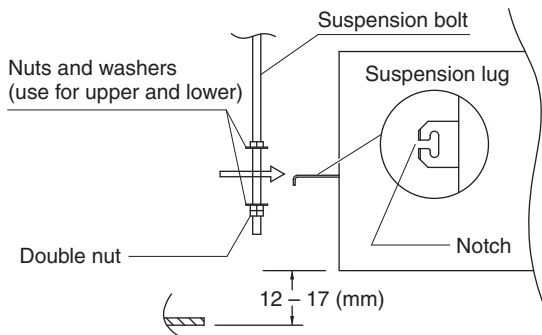

Fig. 1-11
- (3) Thread the 3 hexagonal nuts and 2 washers (field supply) onto each of the 4 suspension bolts as shown in Fig. 1-11. Use 1 nut and 1 washer for the upper side, and 2 nuts and 1 washer for the lower side, so that the unit will not fall off the suspension lugs.
- (4) Adjust so that the distance between the unit and the ceiling bottom is 12 to 17 mm. Tighten the nuts on the upper side and lower side of the suspension lug.
- (5) Remove the protective polyethylene used to protect the fan parts during transport.
- (6) Check with a tape measure or carpenter's level.